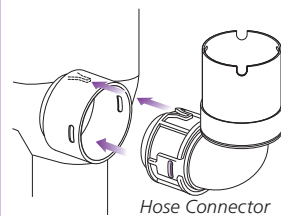

Fig. 1
- 2** Insert the hose connector into the opening on the back of the vacuum body. **(Fig. 1)**